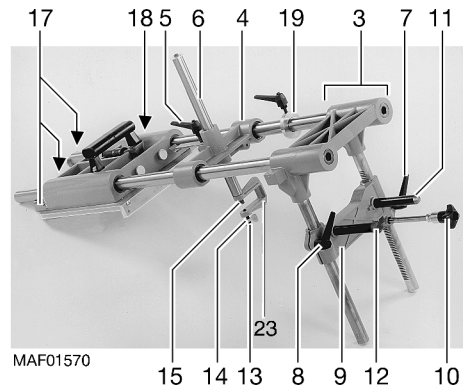

Fig. 2
- Turn bracket 23 (Fig. 2) 180° if required.